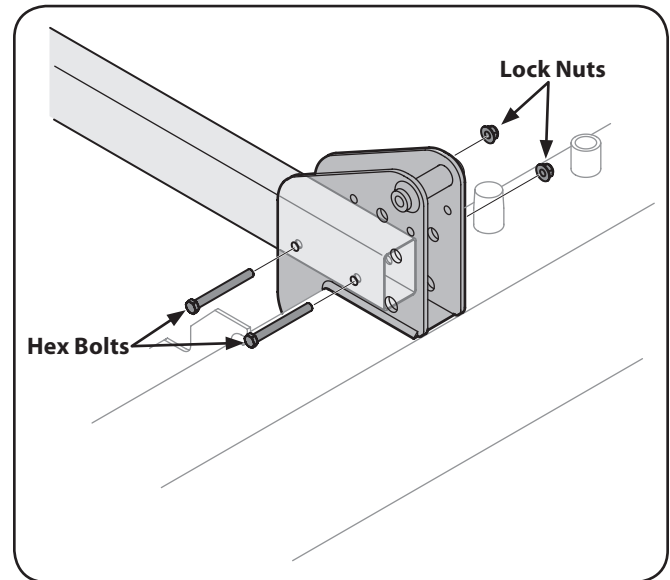

Figure 3-6
2. Place the tongue in position and secure with hardware just removed. See Fig. 3-6.